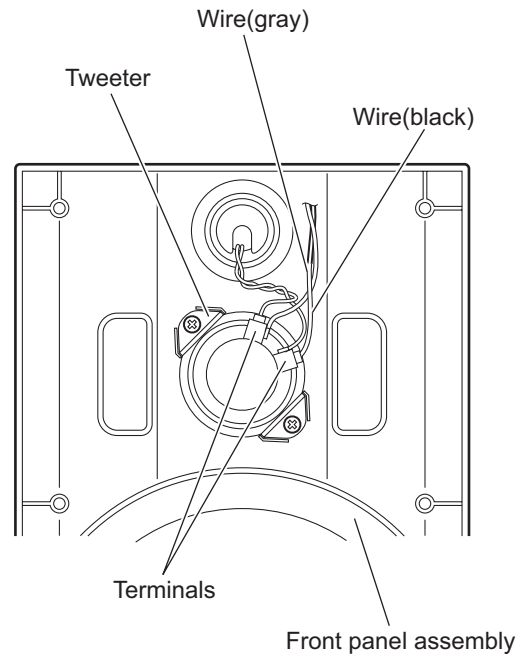

Fig.4
(2) From the inside of the front panel assembly, disconnect the gray and black wires from the terminals of the tweeter. (See Fig.4.)